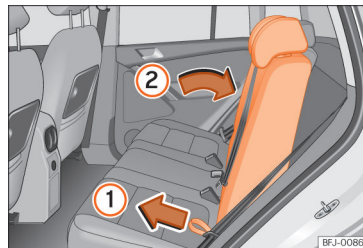

Fig. 141 Rear seat backrest adjustment.
- Press the right or left backrest of the seat with one hand and, at the same time, pull from the corresponding cord with the other » **Fig. 141** **1**.